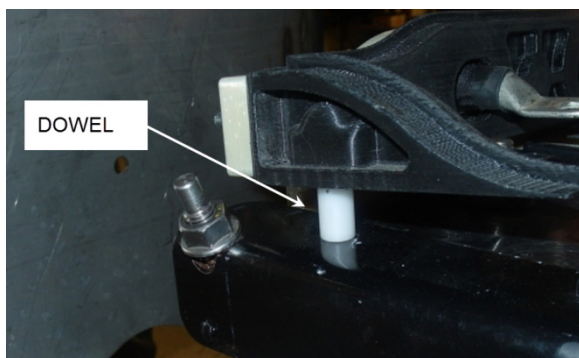

FIGURE 52: DOWEL ON ANGLE
5. Align the dowels on the angles with the holes on the cable guides (FIGURE 52).